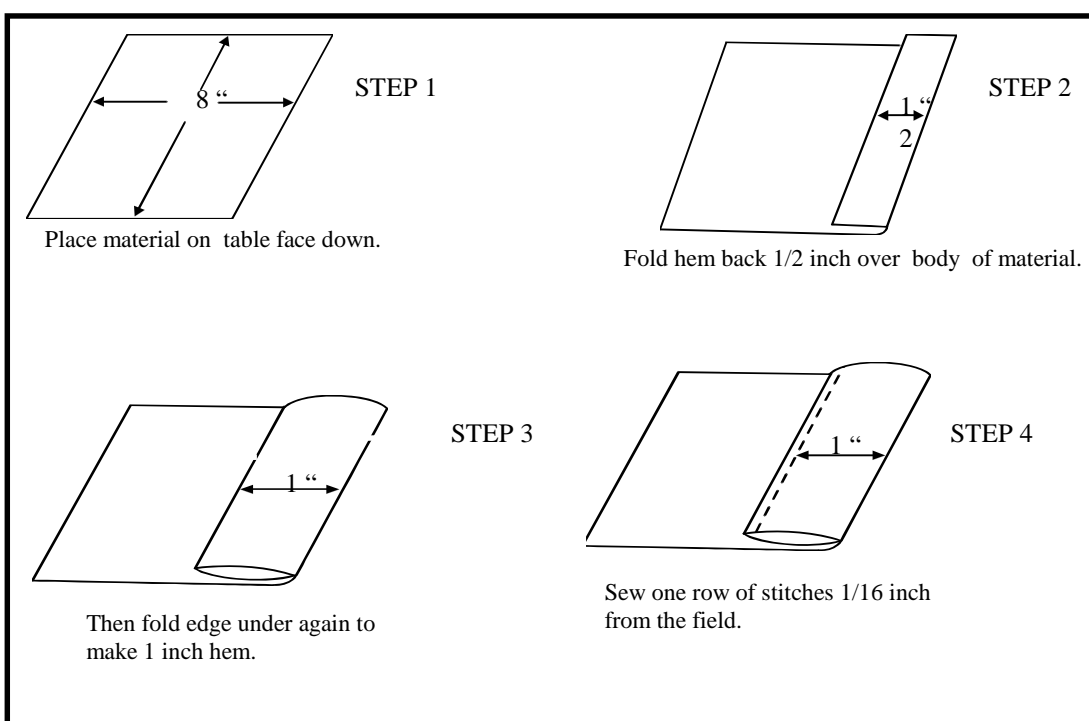

Figure 3-9. Seam type 1
b. Seam Type 1. Seam type 1 (Figure 3-9) is a hemming seam. It is used to put a machine-sewn hem in garments such as shirts and trousers. This seam is used when the garment does not need a deep or hidden hem. It is also used to put a simple finished seam edge on sheets and pillowcases and many other textile items. To make seam type 1--
- (1) Place a piece of material 8 inches by 8 inches on the table face up.
- (2) Mark the face side of the material 1 1/2 inches from the edge (on the 8-inch edge), a straight line across the length of material.
- (3) Make the second line 1/2 inch from the edge across the length of the material.
- (4) Fold the material on the first mark made 1 1/2 inches from the edge.
- (5) Fold the material on the first mark made forming a hem. (The overall width of the hem when folded should be 1 inch at this time.)
- (6) Place the material on the machine keeping the material folded.
- (7) Starting on the end of the hem and on the 1/2-inch turn under, sew a row of stitches 1/16 inch from the folded edge, the length of the hem. Each end of the stitch line should be tacked.
- (8) Press the material flat with an iron.